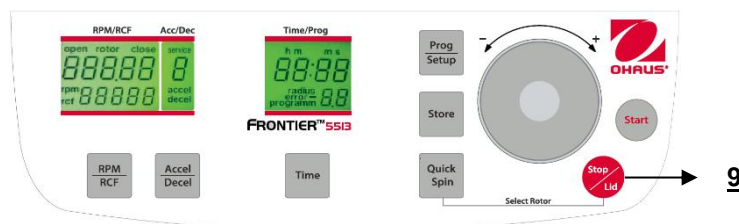

Figure. 25
By the **"Stop/Lid"** key (9) (See figure 25) you can interrupt the run at any time. After pressing the key the centrifuge decelerates with the respective pre-selected intensity down to stand still. After the rotor complete stopped, press the "Stop/Lid" key will open the lid.